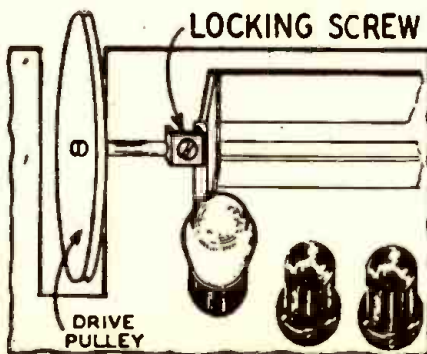

Fig. 1. View from back of cabinet.
**Setting Buttons.**—When setting-up the manual pushbutton tuning buttons, it is preferable to follow in a kilocycle sequence, starting with the lowest kc. setting at left. To set a button, unlock the pushbutton mechanism from the back of the radio receiver. On the drive pulley shaft and at the left side (from the back of the radio set) of the pushbutton tuning assembly is a locking screw (see Fig. 1). Turn the manual tuning knob until the locking screw is available and loosen it with a small-handled screwdriver. To set stations accurately do not jar the radio set or the buttons while the mechanism is unlocked. Having tuned-in a station to accurate resonance, by means of the tuning eye, hold the manual tuning knob with one hand and with the other push one of the station buttons all the way in. Double-check the resonance, meanwhile holding the button all the way in, then slowly release the button. Do not touch this button again while the mechanism is unlocked. Now tune-in the second station following the same procedure; and so-on for the remaining buttons. After all the stations are set, the mechanism is locked by turning the manual tuning knob until the locking screw can be easily reached; with a small-handled screwdriver, the locking screw is then tightened.